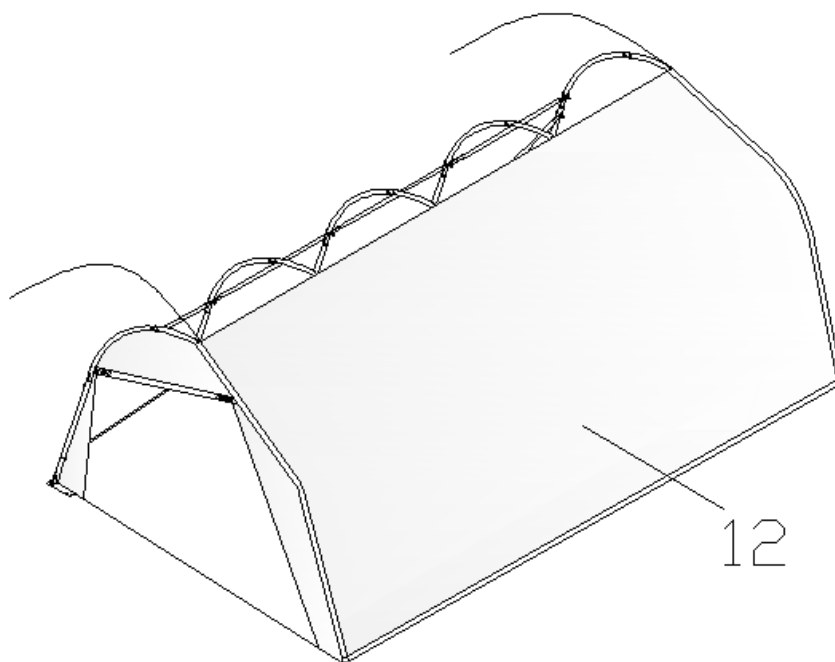

Figure 8
- Pull the cover over the top of the structure from both ends, to have one person standing inside to push upwards will help to move the cover smooth without any damage (Figure 8).